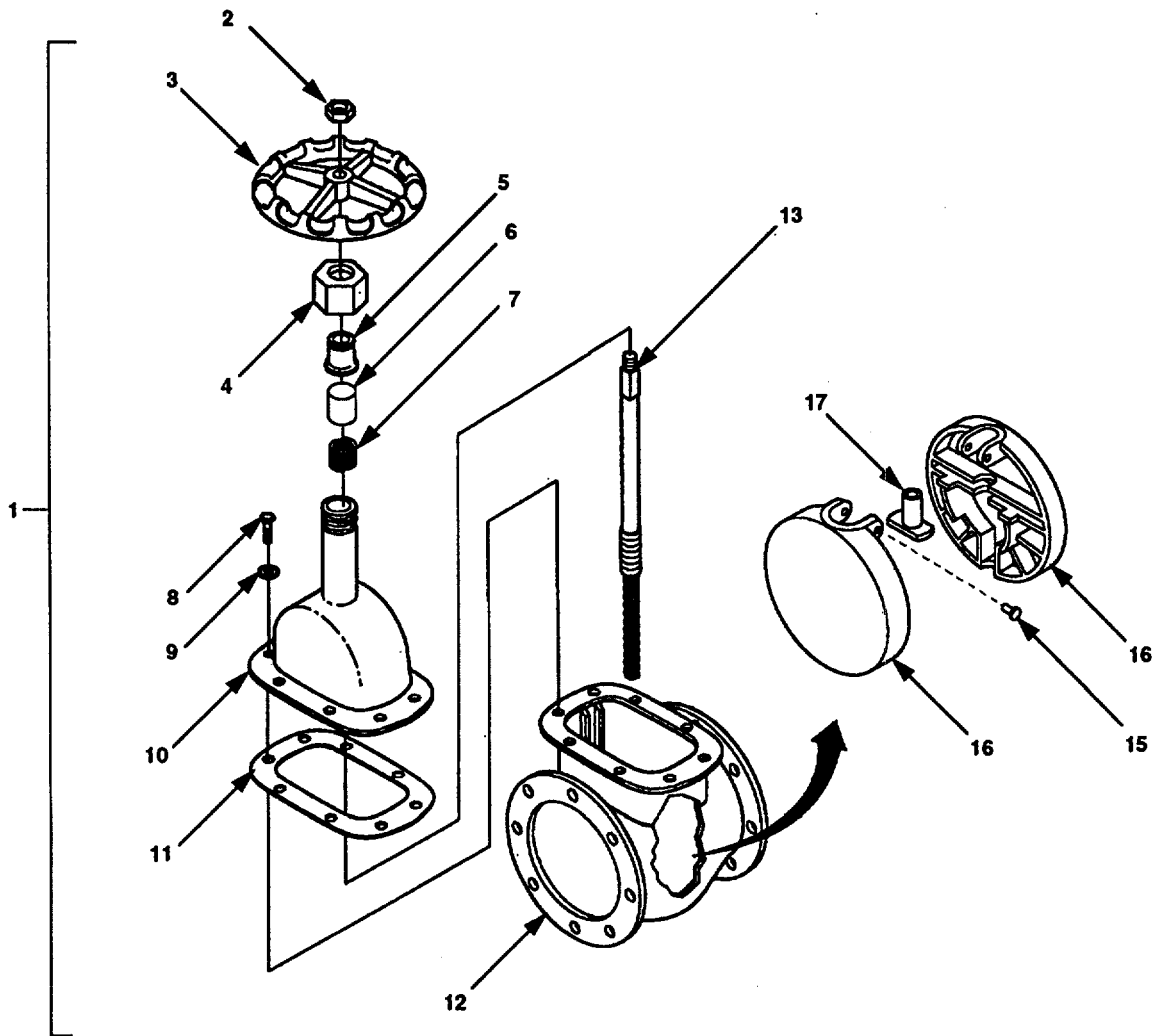

Figure 4-13. 4 Inch Gate Valve Assembly Maintenance.
4.12.1.1 Removal. Placing the 4 inch gate valve assembly (Figure 4-13, 1) in the equipment conditions specified above will remove the 4 inch gate valve assembly (1) from the storage assembly.